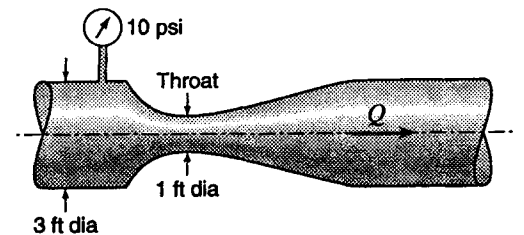

Figure S5.9
5.10.3 Water at 80°F flows horizontally through the constriction of Fig. S5.9 at a rate of 65 cfs when the atmospheric pressure is 27.9 inHg. Neglecting head loss, find the largest throat constriction diameter d_2 which will cause cavitation.